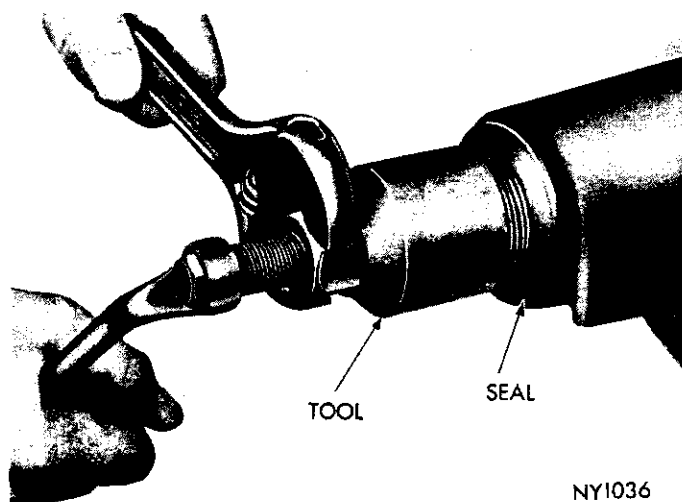

Fig. 10—Removing Pinion Oil Seal
(7) Using Tool C-748 remove drive pinion oil seal (Fig. 10). Remove front pinion bearing cone and pre-load shim.